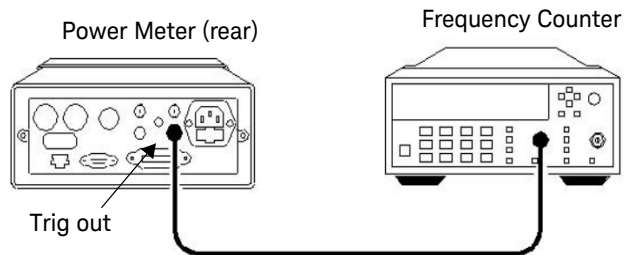

Figure 2-9 Time Base Accuracy Test Setup
- 1 Connect the equipment as shown in Figure 2-9.